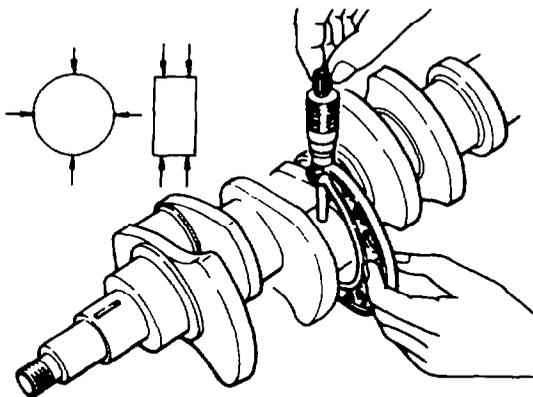

Figure 28 — Measuring Crankshaft Journals
- as. Measure and record the diameters of the crankshaft journals and the front and rear oil seal surfaces, in two places 90° apart at each end of the journal (see Fig. 28), using a suitable micrometer (refer to Table 6).